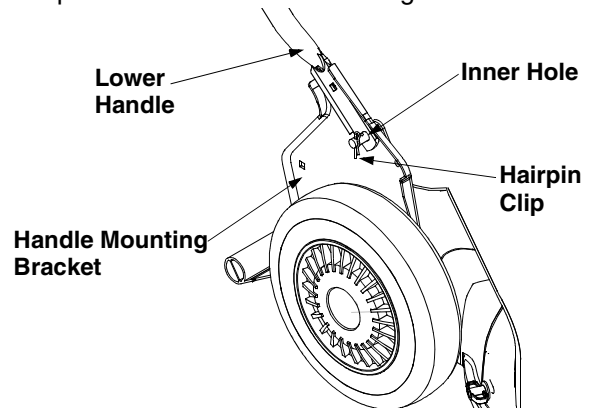

Figure 2
- Remove the hairpin clip from the outer hole in the weld pin on the handle mounting bracket. Using a pair of pliers, squeeze one leg of the lower handle against the handle mounting bracket. Insert the hairpin clip into the inner hole on the weld pin. Repeat on the other side. See Figure 2.